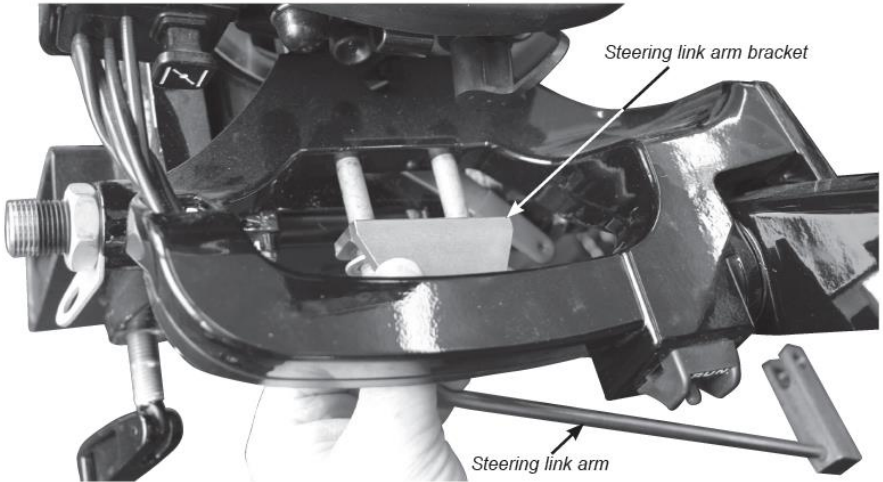

Fig B5 - Fitting the steering link arm to the kicker motor
- ii) Attach the steering link arm bracket to the kicker motor (Fig B5).